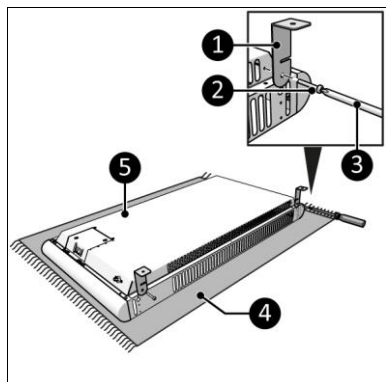

Figure 11
7. Lay the device down on a soft steady surface (Figure 11, pos. 4).
8. Screw and tighten two brackets (Figure 11, pos. 1) on both sides of the main body (Figure 11, pos. 5) with a small screw (Figure 11, pos. 2) using a Phillips screwdriver (Figure 11, pos. 3).